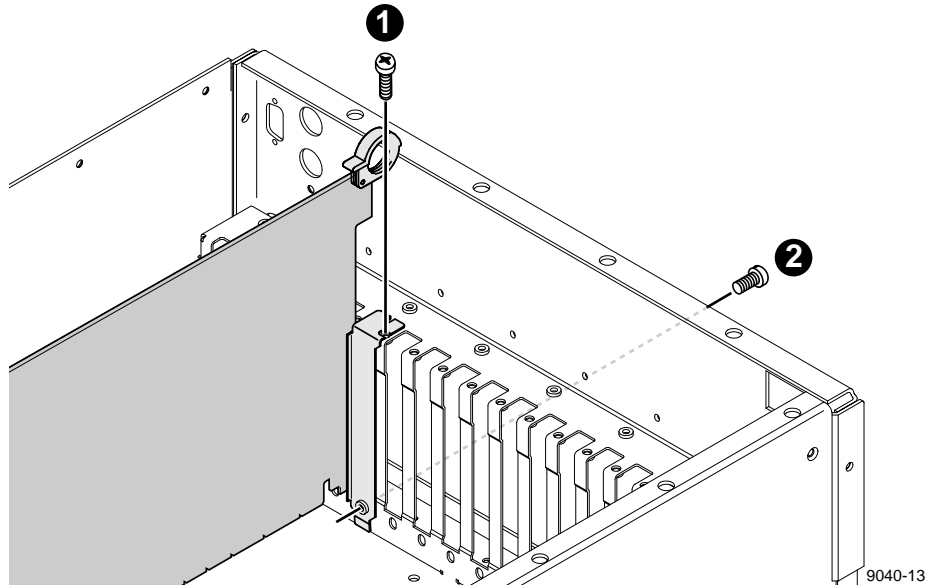

Figure 8. Installing the Board Mounting Bracket Screws
- Using a Torx tool with a T15 tip, install the two mounting bracket screws: one that anchors the top of the bracket from inside the chassis (❶ in Figure 8) and one that anchors the bottom of the bracket from the outside rear panel of the chassis (❷ in Figure 8).